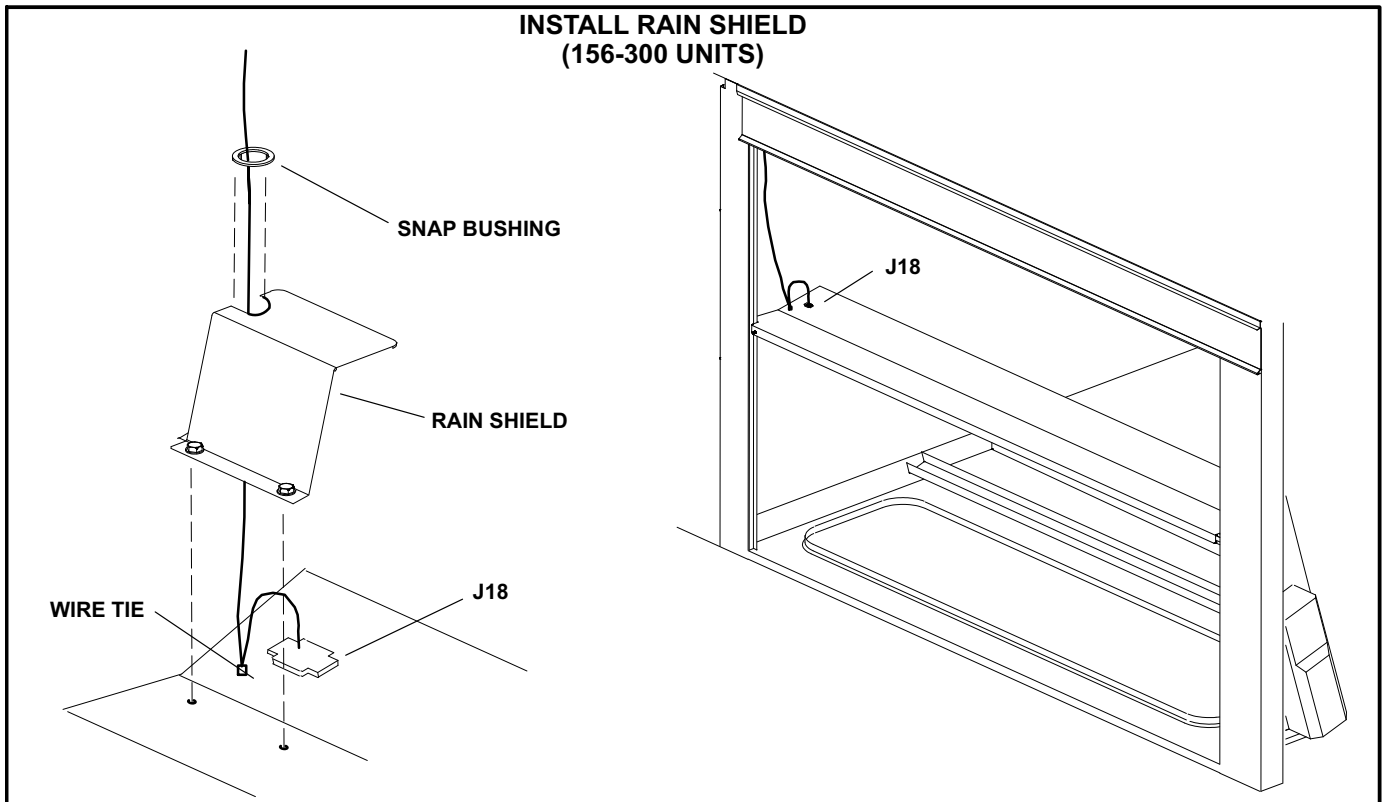

FIGURE 10
- 2- Install the strain relief, bushing, and rain shield as shown in figure 10.